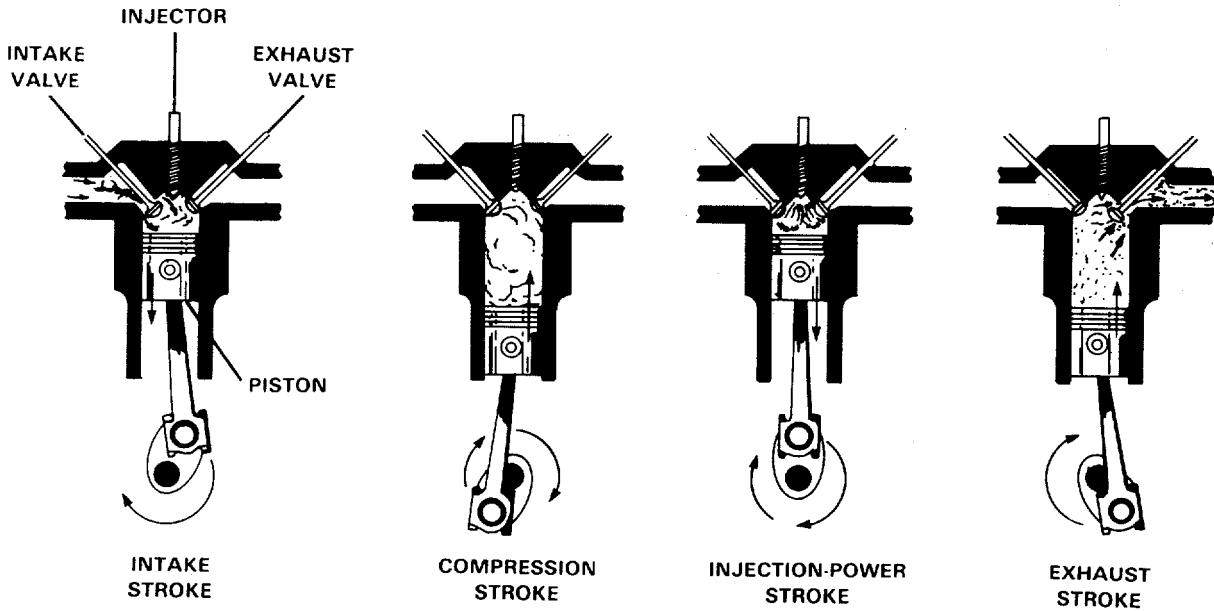

FIGURE 1-2. *Diesel Engine.*
a. **Diesel Engine Cycles.** The diesel engine four stroke combustion cycle consists of four piston strokes. The four strokes happen in this order: intake stroke, compression stroke, power stroke, and exhaust stroke (FIG. 1-2). In order for the four strokes to function properly, valves and injectors must act in direct relation to each of the four strokes of the piston. The intake valves, exhaust valves, and injectors are camshaft actuated, linked by tappets or cam followers, push rods, rocker levers, and valve crossheads. The camshaft is driven by the crankshaft gear, and that means rotation of the crankshaft drives the camshaft, which then controls the opening and closing sequence of the valves and injection timing (fuel delivery).